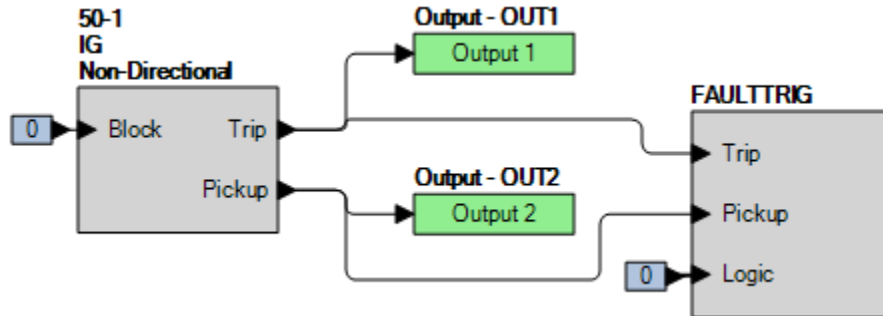

Figure 72-4. BESTlogicPi+ Settings (IG Mode)
Step 2: Use BESTCOMSPi+ to configure the BESTlogicPi+ programmable logic shown in Figure 72-4.
Step 4: Prepare to monitor the 50-1 function operation. Operation can be verified by monitoring OUT2 (see Figure 72-4).
Step 5: Connect a current source to terminals D7 and D8 (IG).